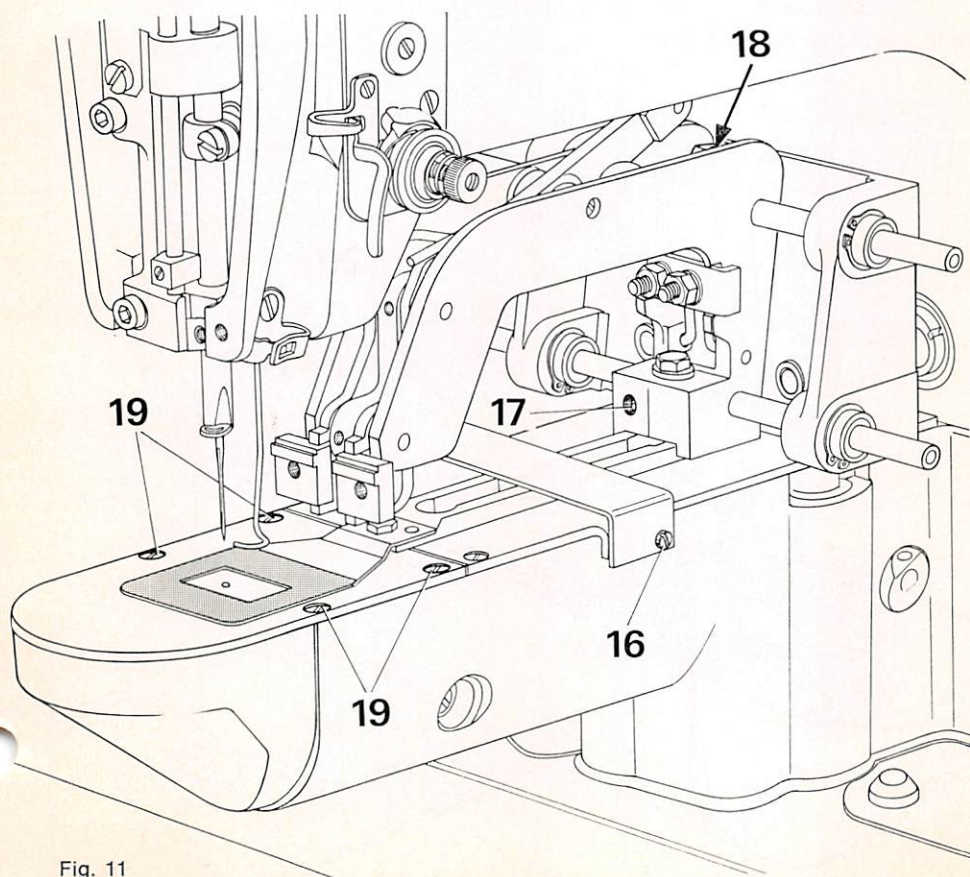

Fig. 11
**11. Dismantling certain parts prior to the following adjustments (Fig. 11)**